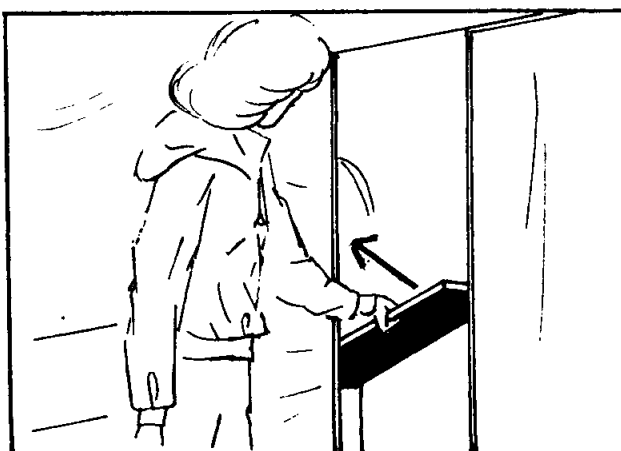

FIGURE 16
23. Reach inside the bathroom and raise the remaining section of wall to full vertical height. See Figure 16.